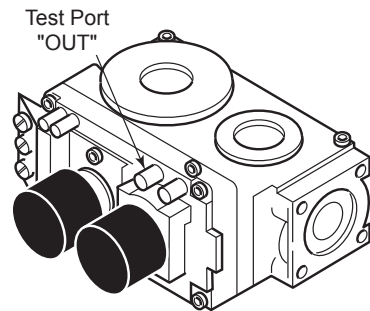

Figure 14. Pressure Test Point Location Millivolt Control
4. To check gas pressures at valve, turn captured screw counter clockwise 2 or 3 turns and then place tubing to pressure gauge over test point. Turn unit to high. Figure 14 After taking pressure reading, be sure and turn captured screw clockwise firmly to reseal. Do not over torque. Check test points for gas leaks.